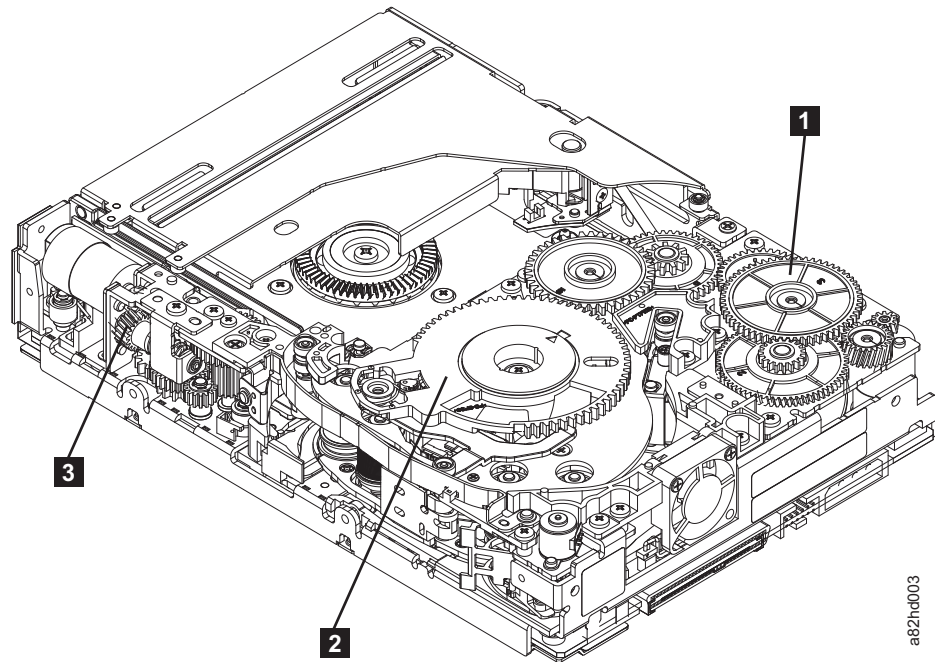

Figure 37. Drive with cover removed to reveal gear train.
4. Locate the threader intermediate gear (**1** in Figure 37) near the rear of the drive. You can use your finger to rotate the threader intermediate gear (**1** in Figure 37) and slowly rotate the threader mechanism gear (**2** in Figure 37) clockwise.
5. As the leader pin is secured in the cartridge, you hear the leader pin retention spring clips click into place. If you do not hear the click, continue rolling until the threader intermediate gear (**1** in Figure 37) stops. The LBA is in the correct position.
6. Rotate the loader motor worm gear (**3** in Figure 37) clockwise as viewed from the front of the drive until it stops. This action releases the LBA leader pin.
7. Rotate the threader intermediate gear ( **1** in Figure 37 on page 98) counterclockwise until the leader block is in front of the read/write head. This action moves the LBA out of the cartridge.
8. Rotate the loader motor worm gear ( **3** in Figure 37 on page 98) counterclockwise as viewed from the front of the drive until it stops.